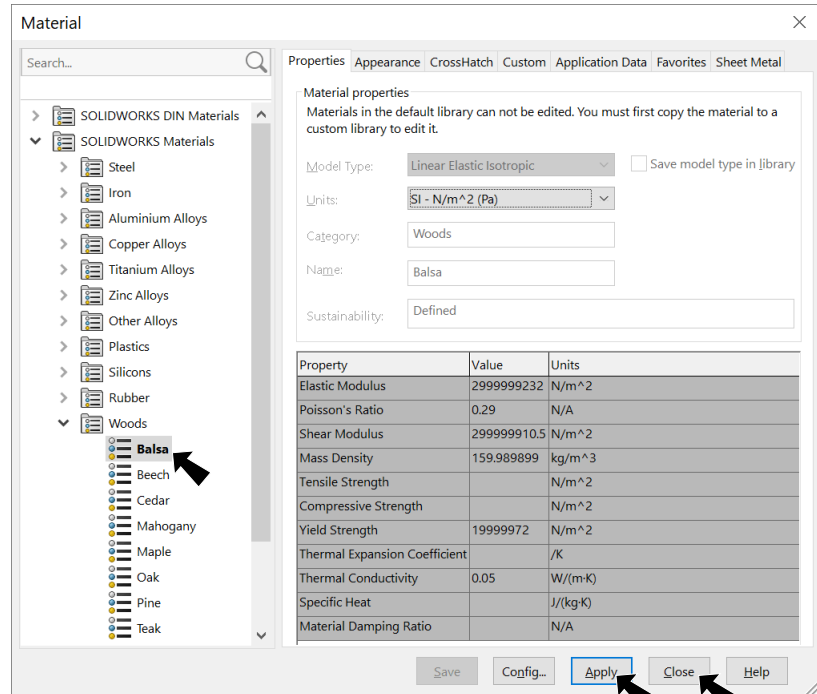

Fig. 29
Step 2. Expand **Woods** (click ) in the material tree and select **Balsa**, Fig. 29. Click **Apply** and **Close**.